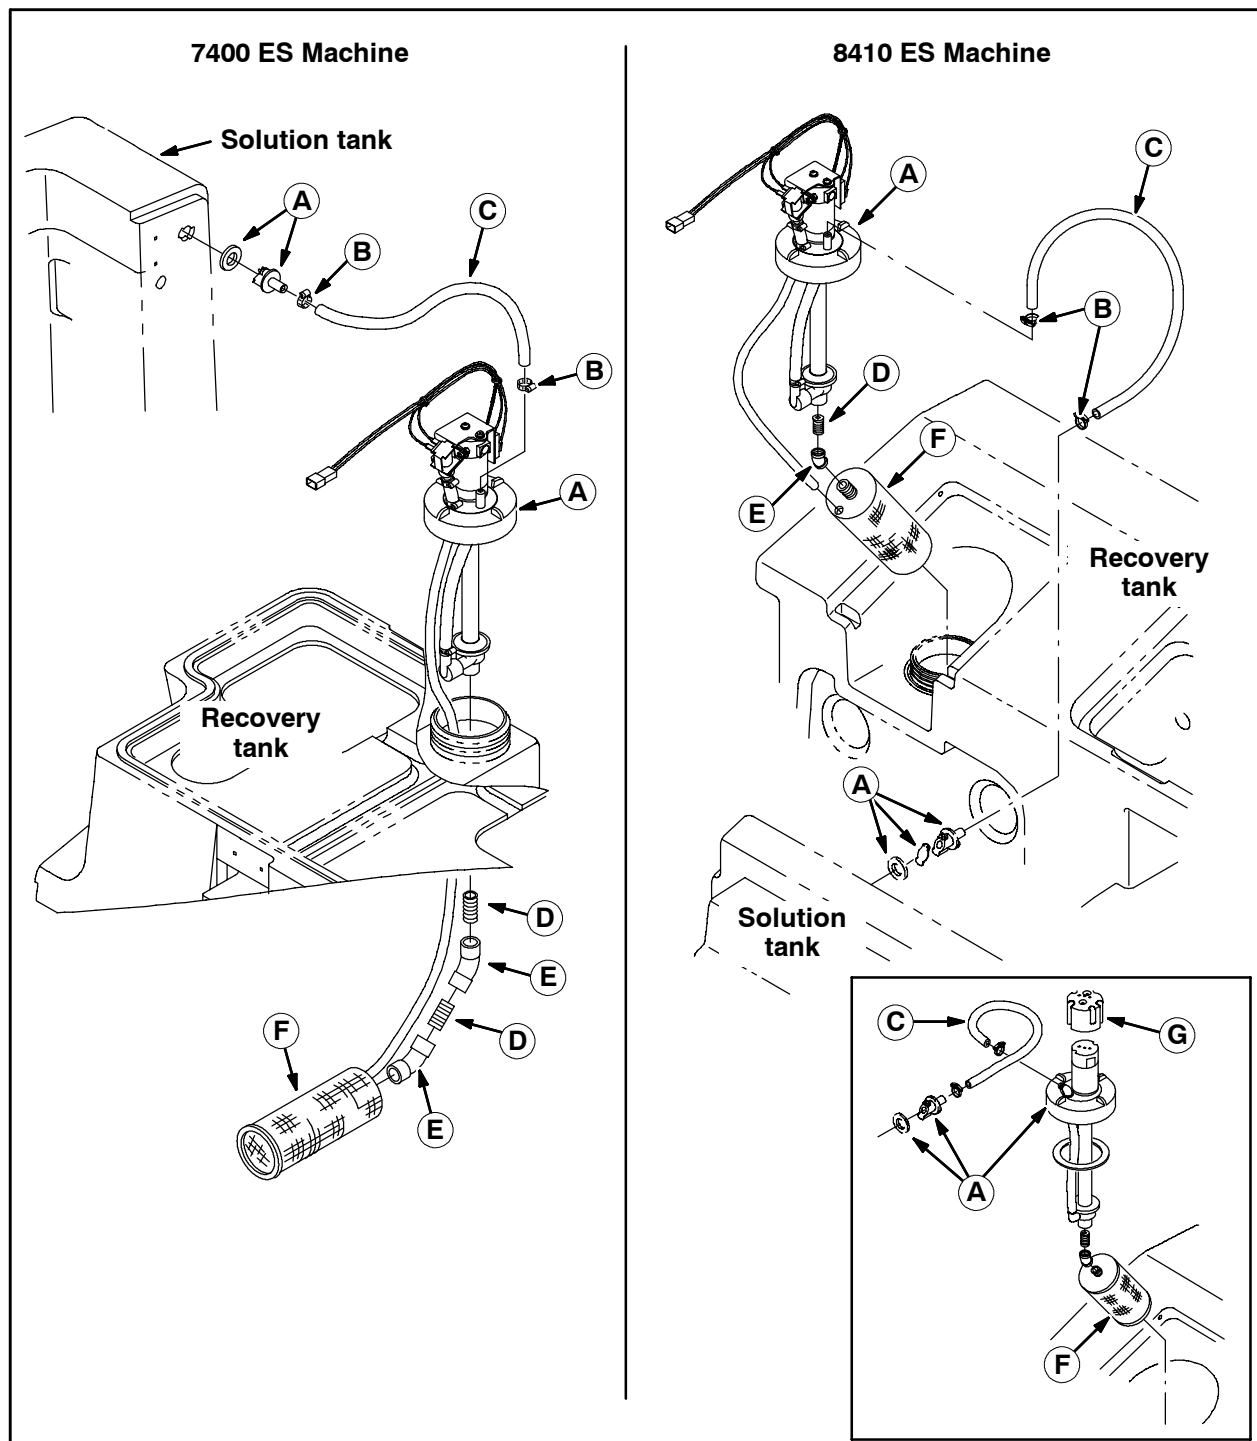

FIG. 1
3. Remove all lettered items (A through G) from the solution and recovery tanks. Discard all parts removed in this step. Refer to Fig. 1.